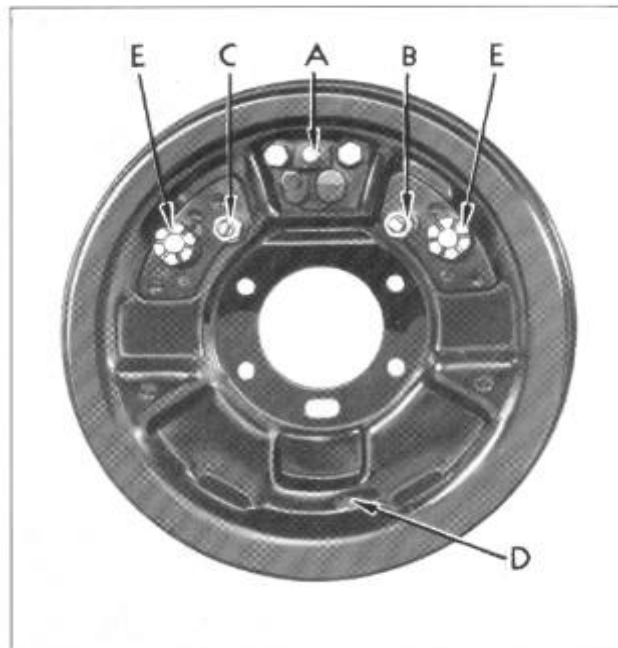

Figure 4
3. Remove links E, Figure 4, from the backing plates.